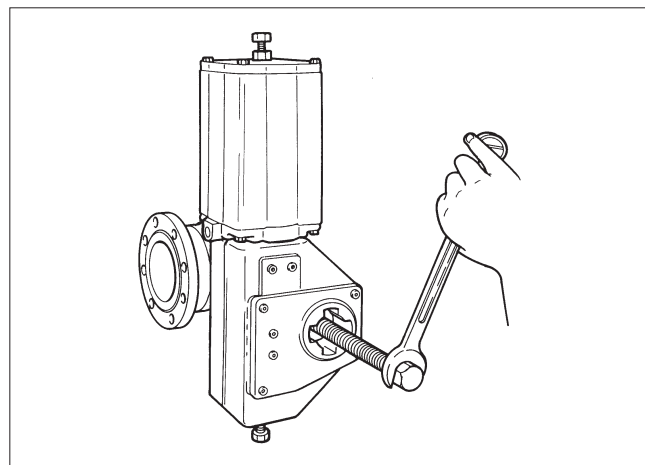

Fig. 25 Detaching B series actuator
- Detach the actuator using a suitable extractor, see Fig. 25. The tool can be ordered from the manufacturer.